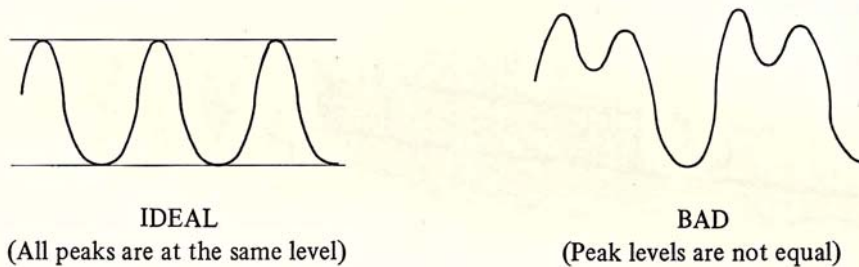

Fig. 17
- d) Adjust VR1 until the oscilloscope shows a waveform or as Fig. 17.